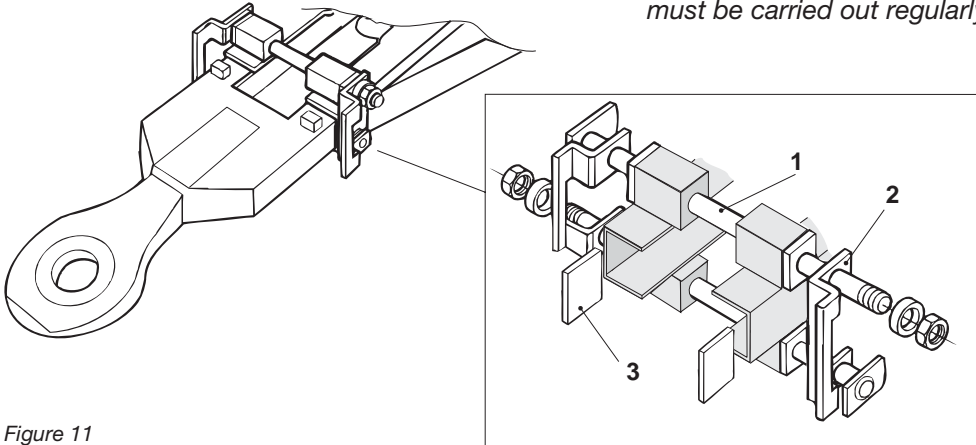

Figure 11
For maximum length of life there should be no sideways play between front and rear sections. See figure 11 for adjustments. Bolts etc. must be regularly checked for tightness. If driving is carried out for longer periods in one position, the adjustment bolts should be tightened to reduce wear and play.
- Remove the adjustment bolts (see *figure 11*, item 1), stop plates (2) and wear plates (3) plus any wear sheets if installed, see *figure 11*.
- Re-mount the adjustment bolts as per *figure 11*.
- Tighten the adjustment bolts (1) so that there is no play. Check that lengthwise adjustment of the front slider can be carried out. *Checking, cleaning and adjustment must be carried out regularly.*